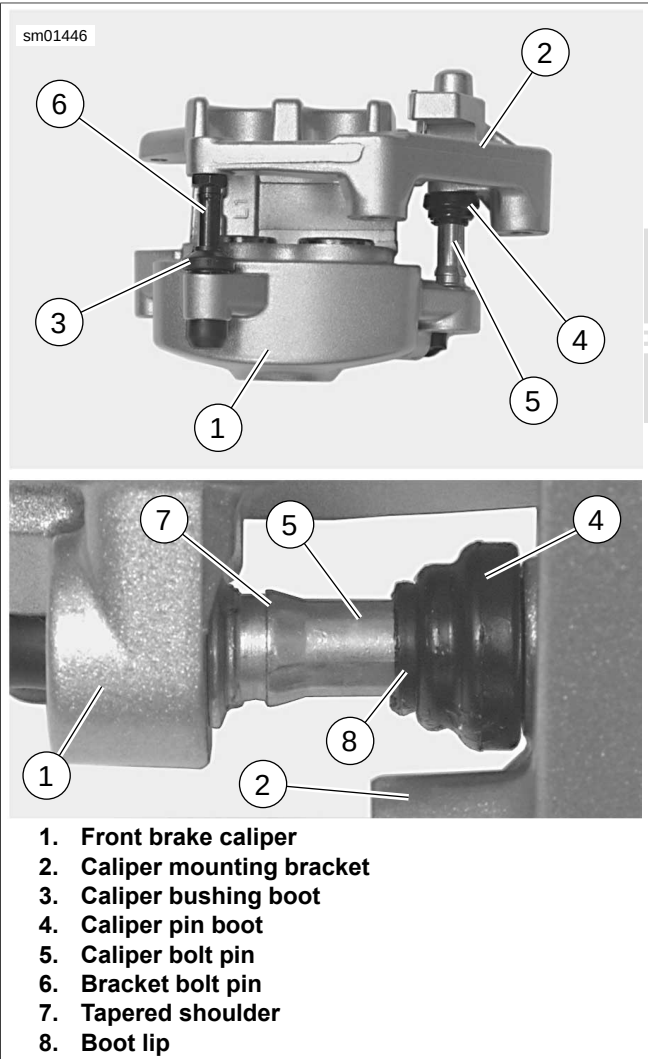

Figure 2-71. Assembling Front Brake Caliper and Mounting Bracket
2. See Figure 2-71. Apply G40M BRAKE GREASE inside boot lip (8) to prevent sticking between boots (3, 4) and bolt pins (5, 6).
3. Assemble brake caliper and mounting bracket, carefully sliding bolt pins into boots. Slide brake caliper all the way onto mounting bracket until boot lips fit over tapered shoulders (7) of bolt pins.